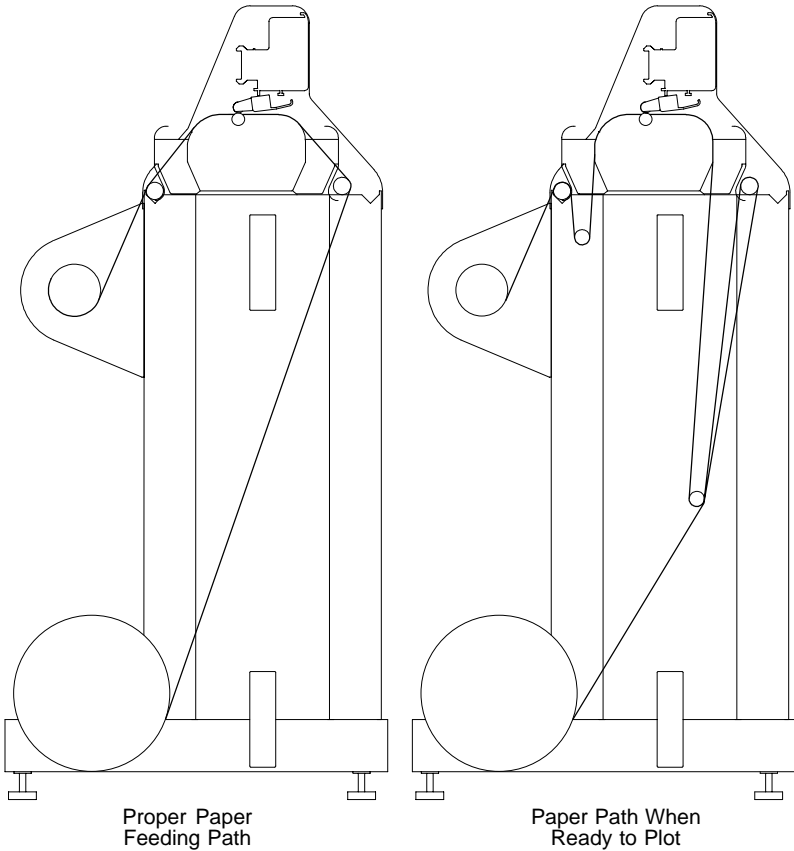

Figure 17. The correct paper feeding path on the model 600 and 28.
Figure 17 represents the proper paper feeding paths. The diagram on the left shows the paper after it is fed properly and taped to the take-up shaft. The figure on the right shows the result after the dancer bars are inserted and a **Start Point** is set.
5. Temporarily lock the paper in place by lowering the chart wheel lever. Refer to *Figure 17* for help with the proper paper path.
3. While holding the front edge with both hands about 2' apart, raise the chart wheel lever, and pull about 18" - 20" (46-51 cm) of paper over the platen and shiny top bar and under the take-up shaft (see *Figure 17*).